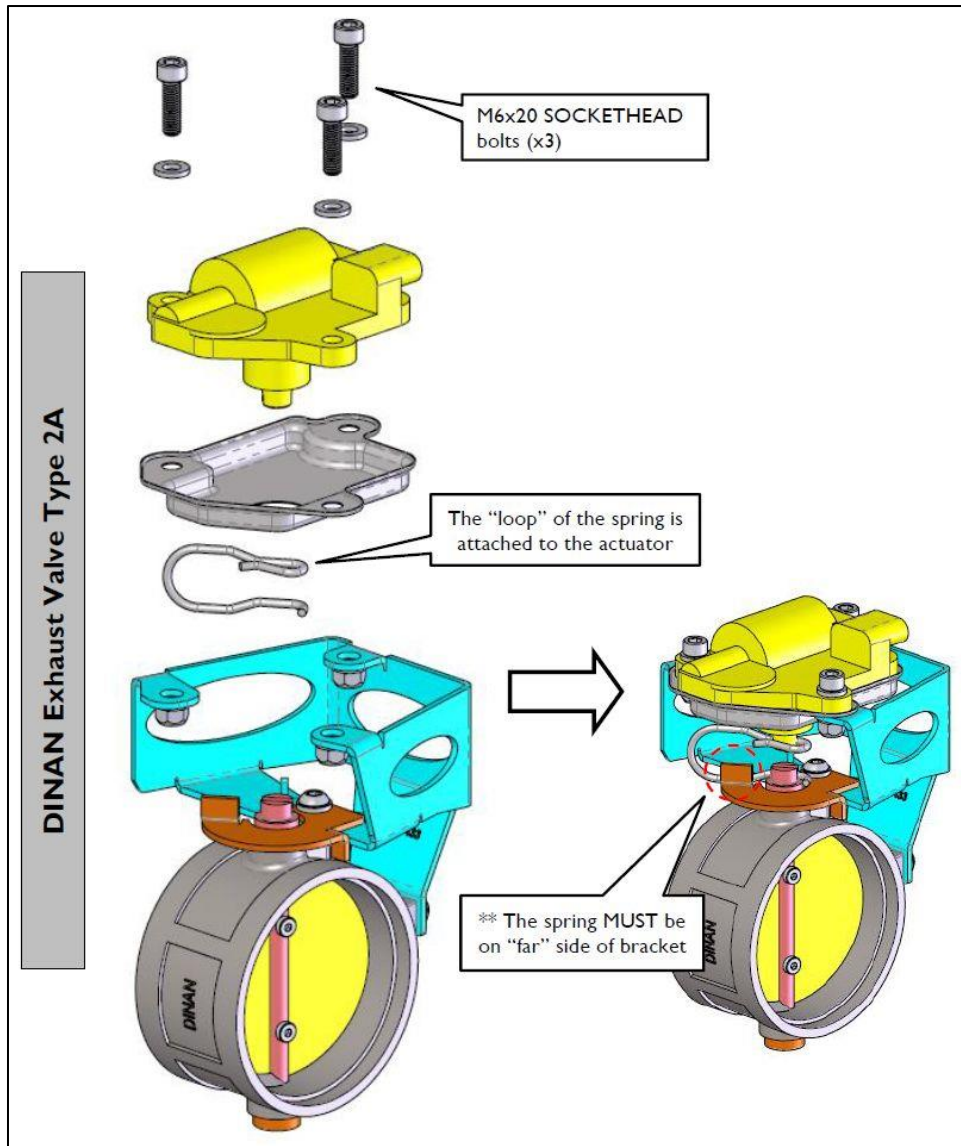

Figure 4: Assembly: Valve Motor
3) Using supplied hardware, install motor and spring as shown in Figure 4.